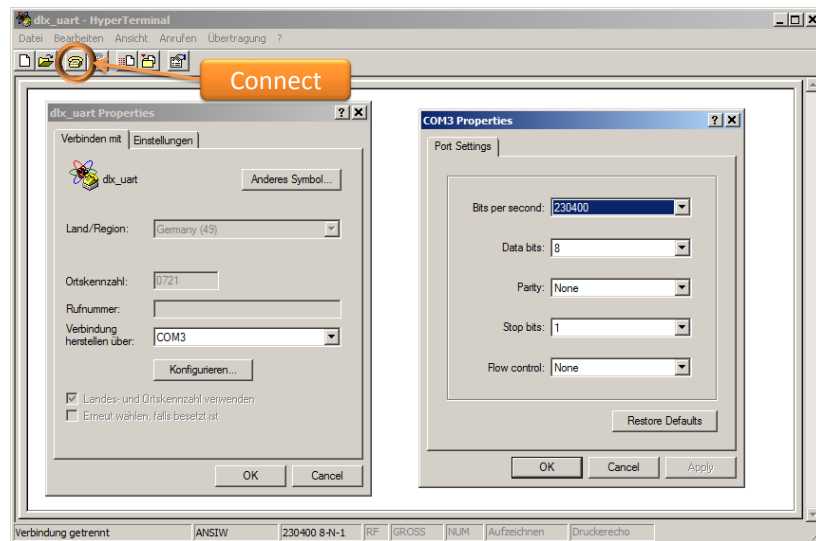

Figure 6-6: HyperTerminal settings
- You have to start the “*dlx_uart.ht*” file under windows, which will open the MS Windows HyperTerminal with the correct settings (*Bits per Second=230400, Data Bits=8, Parity=None, Stop Bit=1, Flow Control=None*). You can find “*dlx_uart.ht*” in `/home/asip00/ASIPMeisterProjects/TEMPLATE_PROJECT/Applications/Bootloader`). However, you may have to adapt the configured COM port, depending on which port you are connected to the FPGA (see Figure 6-6). Under, Ubuntu, you can start HyperTerminal by typing “*hterm &*” and can configure the settings as mentioned before. After that, you have to click the “*connect*” button to open the connection. Opening the connection always works without error message, but you have to make sure that the FPGA board is connected to the PC where you are running the HyperTerminal via UART.
- Now configure the FPGA Board to run with 40 MHz (see point (9) in Figure 6-6) and upload the bootloader bit-file (created in first step) with iMPACT. The UART port on the FPGA is configured to work with 40 MHz and if you use a faster or slower frequency, then you will not see the correct output via UART. The bootloader will prompt on the UART-Console for initializing the SRAM. It will ask for three things (you have to answer with pressing ‘y’ or ‘n’): Initialize IM, Initialize DM, and Start Application.